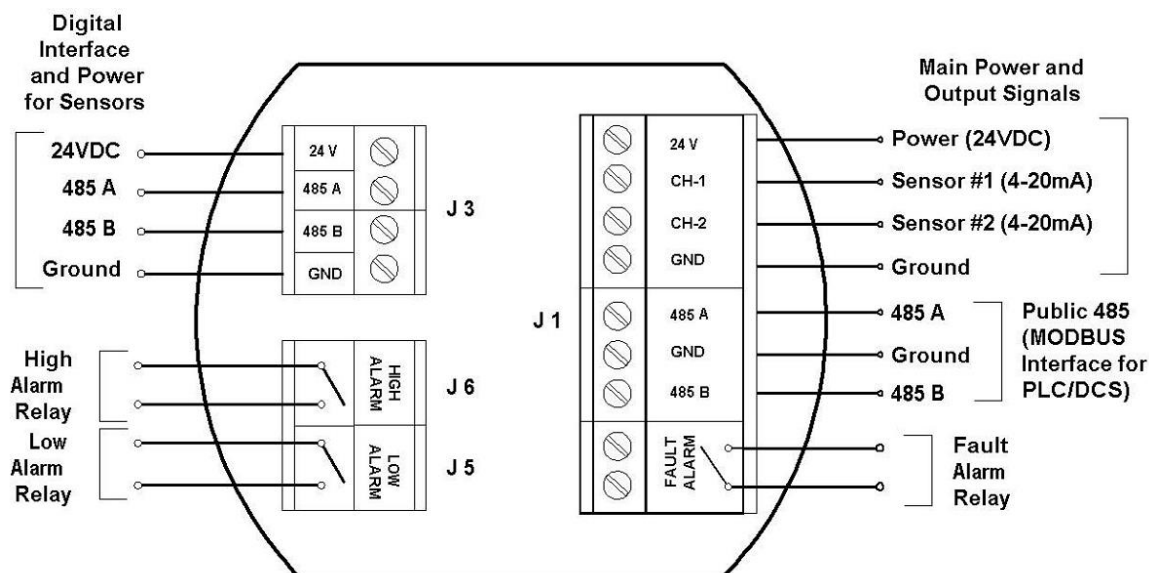
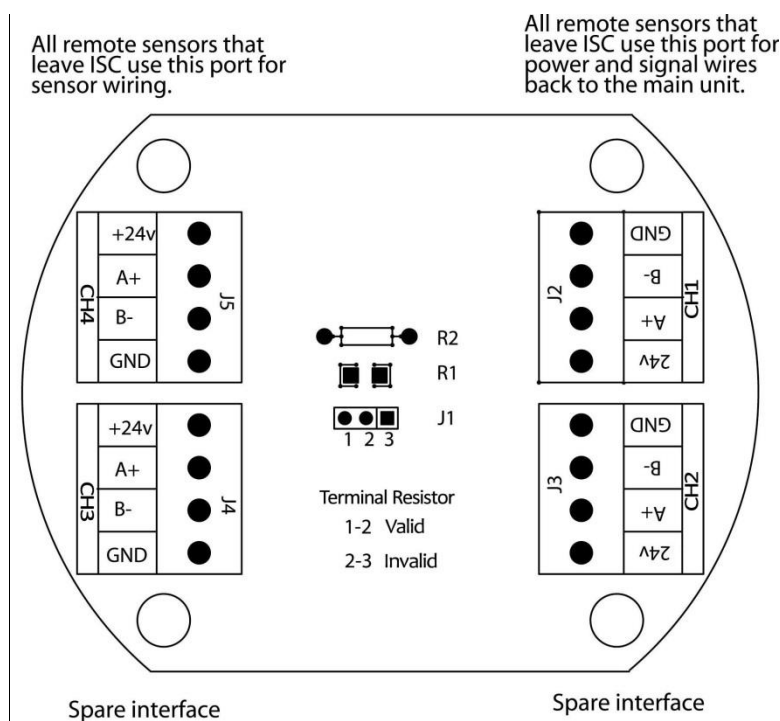
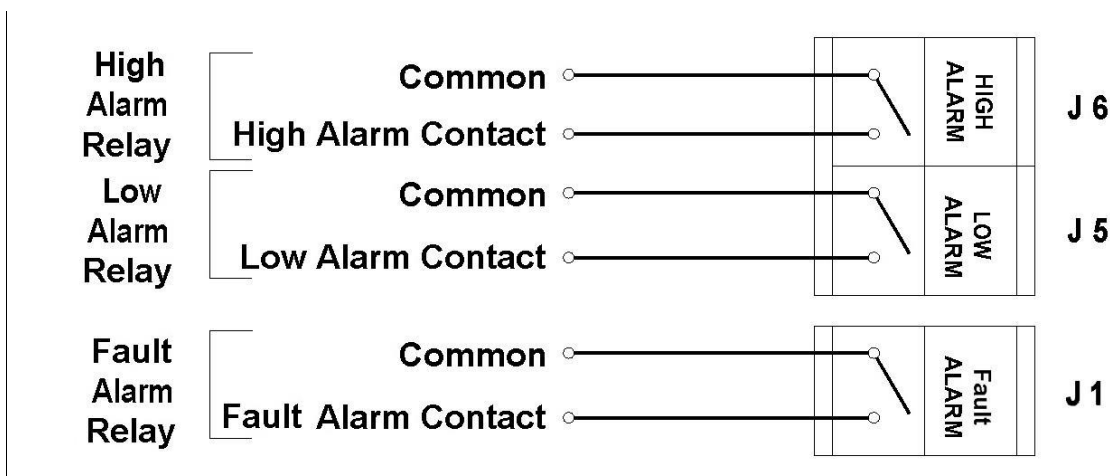

Figure 2-4. Electronics Module for iTrans™ **ERREUR ! SOURCE DU RENVOI INTROUVABLE.** (Main Unit)
Figure 2-5. Electronics Board for iTrans™ **ERREUR ! SOURCE DU RENVOI INTROUVABLE.** Remote Sensor
Figure 4-1. Alarm Relay Connectors J6, J5 and J1
The electronics module of the ***iTrans*™ERREUR ! SOURCE DU RENVOI INTROUVABLE** gas monitor contains connectors and jumpers for wiring and configuring the device. The electronics module for a main ***iTrans*™ERREUR ! SOURCE DU RENVOI INTROUVABLE** unit is shown in Figure 2-4. The electronics module for a remote unit is shown in Figure 2-5. Wiring details are explained in Chapter 4: System Wiring.
To connect the **iTrans™** **ERREUR ! SOURCE DU RENVOI INTROUVABLE** control wires to the three relay terminals on the relay board, wire the unit to the connectors shown in Figure 2-4. The **low alarm relay** is activated when the low alarm threshold is met. This is a non-latching, Normally Open (NO) contact. The **high alarm relay** is activated when the high alarm threshold is met. This is a non-latching, Normally Open (NO) contact. The **fault alarm relay** is activated upon power-up of the **iTrans™** **ERREUR ! SOURCE DU RENVOI INTROUVABLE**. When the fault condition is met, the circuit opens. This is an Electronically closed (NO) contact. See Figure 4-1 for relay wiring.